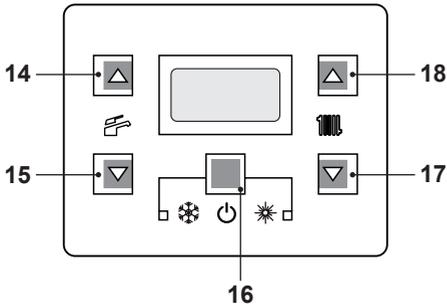

Fig. 7.5
- Press the 16 key for 2 seconds until both  and  symbols appear on the display (Fig. 7.5).
- Switch off the boiler by pressing the 16 (Fig. 7.5) key for 2 seconds until the  symbol appears on the LCD display (Fig. 7.4).